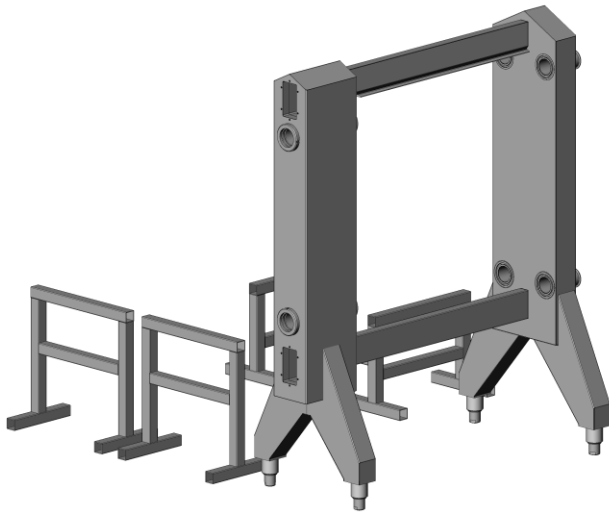
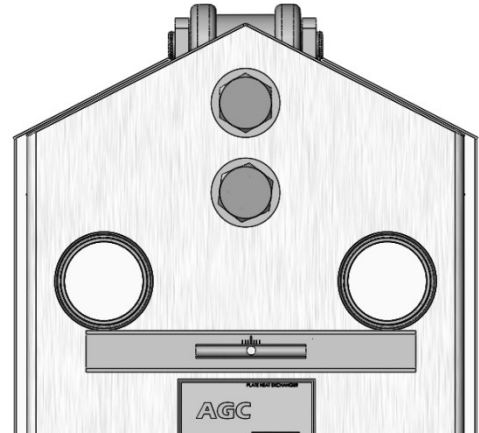

Figure 6-7
Figure 6-8
9. After the press is upright (see figure 6-7) and in the desired location it must be leveled so the plates and terminals will hang correctly. Make sure the fixed end is plumb. This can be accomplished by putting a spirit level across the ports (see figure 6-8). Adjust the ball feet as necessary. Caution: Do not exceed maximum port center height as shown in the drawing package.